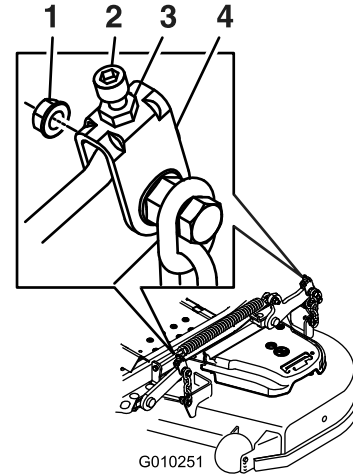

Figure 88
10. If needed, loosen the whizlock nut on the side of the yoke and the jam nut on top. Fine tune the screw adjuster by turning it to get 3 inch (7.6 mm) height (see Figure 88).
- Fine tune the screw adjuster by turning it to get 3-1/4 inches (8.3 mm) height (Figure 88).